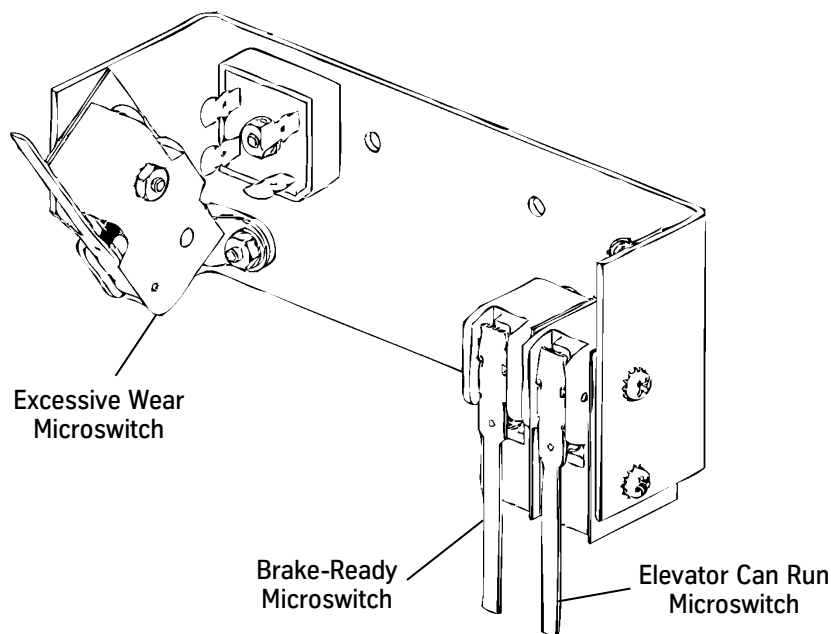

Figure 9 - Brake-ready Microswitch and Trigger Mechanism
4. The hydraulic pressure slowly bleeds off until the trigger and latch are resting together and engaged. See Figure 9.